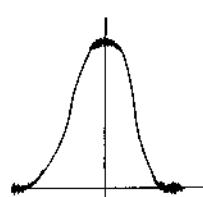

Fig. 4
4. In item 1, set the capacitance of the variable capacitor to minimum and adjust red and blue cores of T253 so that the waveform is as shown in Fig. 4. As T253 contains a 455kHz ceramic filter, sometimes the center of the marker will not correspond to that of the waveform.